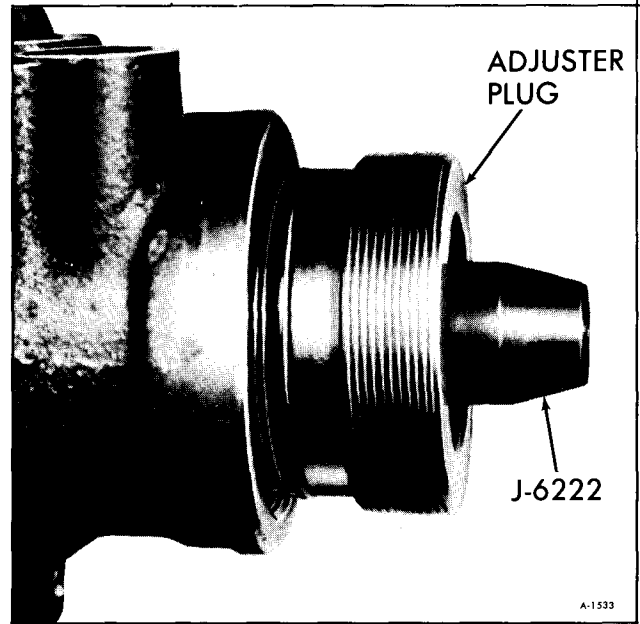

Figure 53—Installing Adjuster Plug
3. Lubricate a new adjuster plug "O" ring with Power Steering Fluid and install in groove on adjuster plug. Place Seal Protector J-6222 over stub shaft, then install the adjuster plug assembly in the housing until it seats against the valve body (figure 53). Remove Seal Protector.